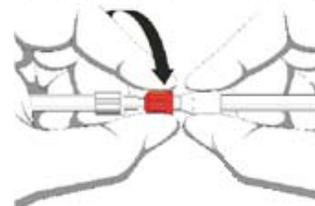

Figure 5b: Fistula Needle Connection: Securing Technique.
2. Twist the colored collar of the bloodline in the direction shown while holding the female luer of the fistula needle or catheter to secure the connection. See figure 5b.